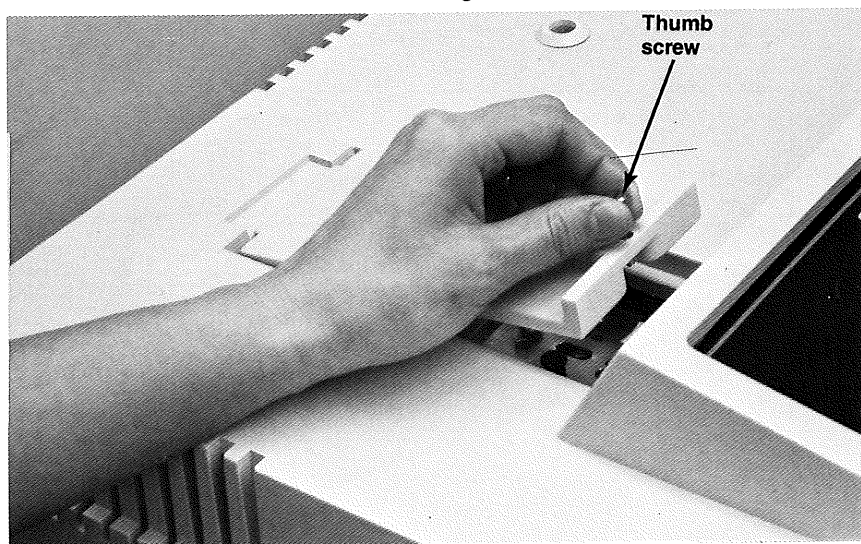

Figure 8-7.
2. Unscrew the thumb screw which secures the source cover. Open the source cover and remove it. See Figure 8-7.